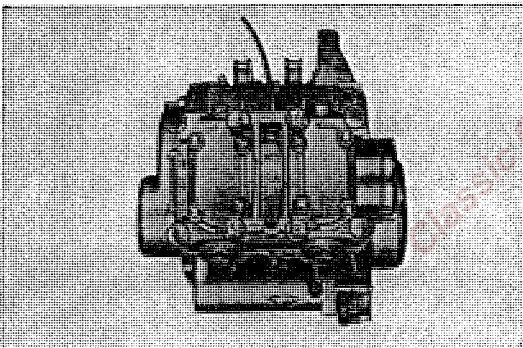

Fig. 3.19 Tightening sequence of cylinder head
5. Tightening of the cylinder head should be made in the order shown in the figure, using a torque wrench. (Refer to Fig. 3.19)